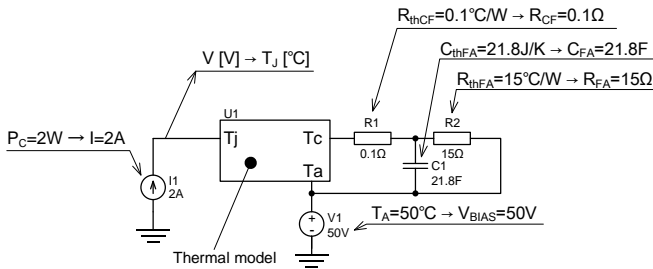

Figure 3. Example of simulation circuit
Next, the simulation circuit and the device configuration are shown in Figures 3 and 4, respectively. From Equations (1) and (2), a voltage with an RC time constant is generated in the Tj pin by applying the power consumption P_D of the device to the Tj pin as a current I and applying the ambient temperature T_A to the Ta pin as a bias voltage V_{BIAS}. This generated voltage represents the junction temperature. In addition, the resistance connected to the Tc pin is R1 that is thermal resistance between the case and the heat sink (R_{thCF}) and R2 that is thermal resistance between the heat sink and the ambient temperature (R_{thFA}). R_{thCF} includes the thermal resistance of the thermal interface material (TIM) and the contact thermal resistance. C1 is the heat capacity of the heat sink. R2 and C1 comprise the heat sink.